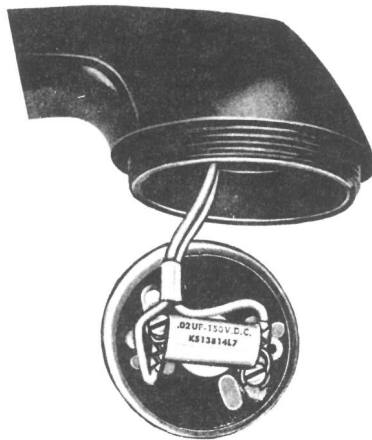

FIGURE 16. KS-13814, List 7 Capacitor, Handset Receiver Unit
- 7.07 The KS-13814, List 7 capacitor may be used to bypass the 44A varistor on a U1 receiver unit as shown in Figure 16. Place the capacitor against the varistor, keeping the capacitor leads as short as possible.